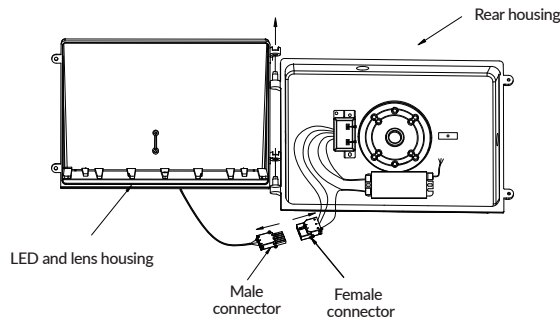

Figure 5
- Open the fixture by loosening the two screws on the right side of the housing. Disconnect the male and female connectors. Remove the LED and lens housing from the rear housing containing the driver. (Figure 5)
- Locate the point E/F/G for surface mounting they correspond to the location of the 3 cratered mounting holes at the back of the rear housing. Prepare the rear housing for mounting by drilling points E/F/G to get three hole; Unscrew the locking Bolt (2) from the side from where the conduit will come into the fixture. (Figure 5)